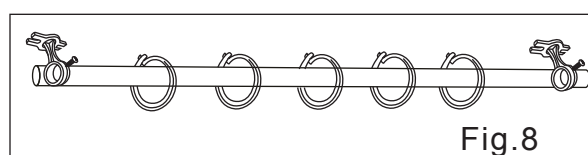

Fig.8
- Attach plastic hangers #18 by placing 5 hangers on each track bar #11. See fig.8.